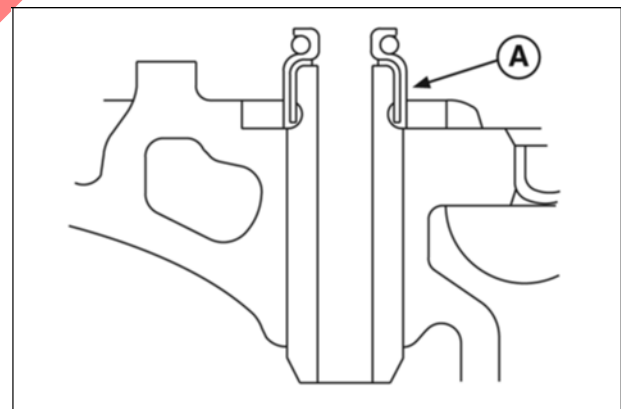

Figure 26
1. Install new valve stem seals (A, Figure 26). Oil inner surface and lip of seal before installing. Press seal on to valve guide bushing until it bottoms.